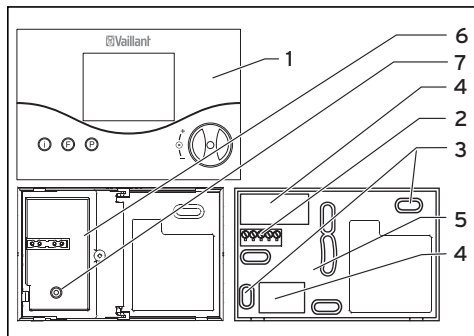

Fig. 9.1 Mounting the room thermostat
Connect the room thermostat to the boiler using a 3-core cable to terminals 3-4-5 (see fig. 9.1, item 2).
- Drill two holes (**3**) of 6 mm diameter (as shown in fig. 9.1) and put in the supplied wall plugs.